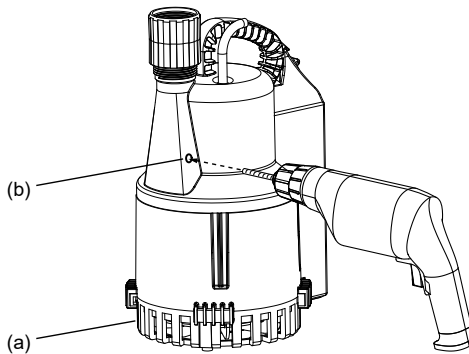

Figure 1
**The 3 mm diameter vent hole may only be drilled at the marked position (b) as shown in figure 1. Violations can permanently damage the pump and put it out of operation.**